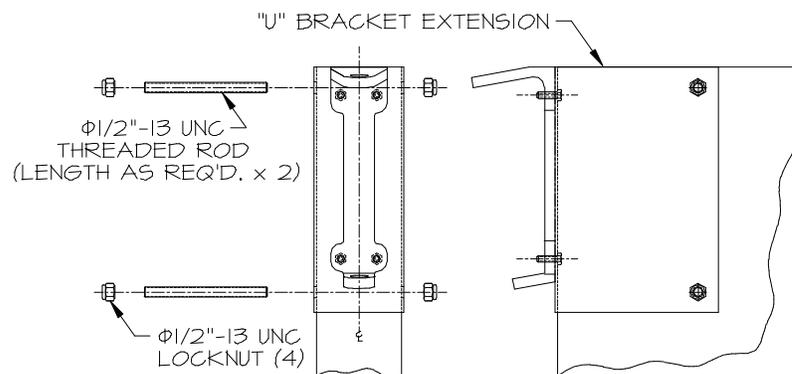

FIG. 5
d. "U" Bracket Extension mounting (Figure 5).